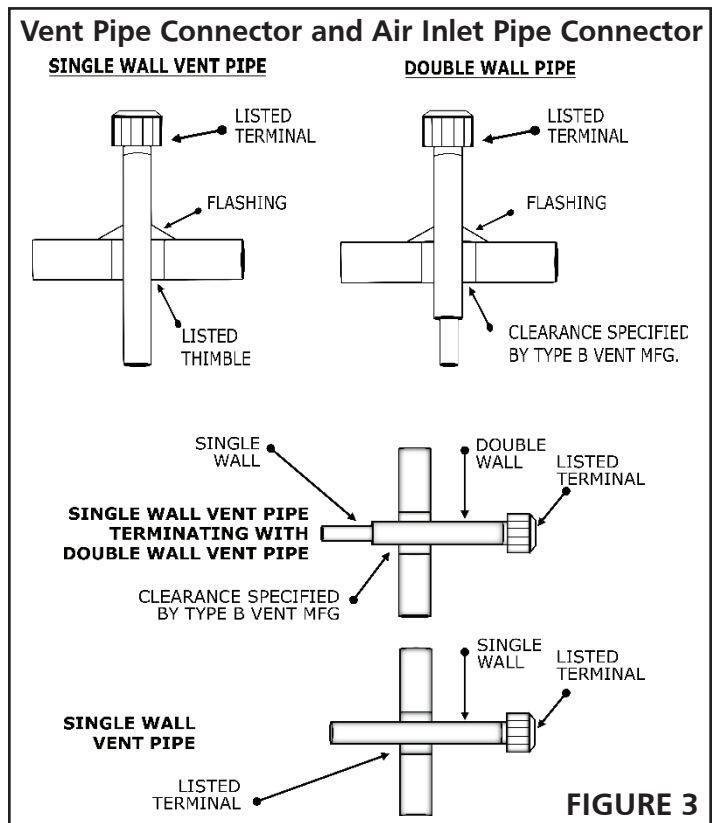

FIGURE 3
4. The heater has a vent adapter for connecting the vent pipe and separated combustion heaters have an inlet air pipe adapter for connecting the inlet air pipe. See Figure 3 and Table 5 on next page. Use the same size inlet pipe and vent pipe as the connector unless otherwise specified by local/national codes.